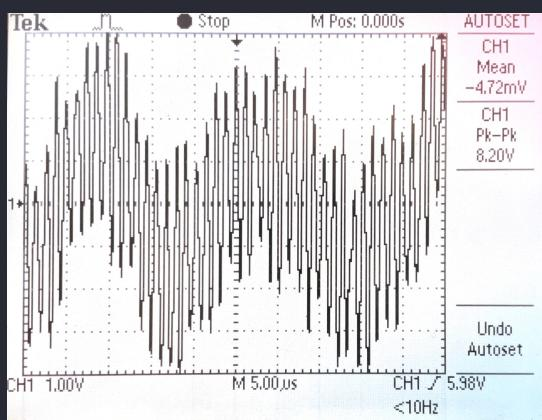

Figure 2.8: TDS 1012 oscilloscope view
**Observations** Fig. 2.8 and 2.9 show the oscilloscope and 770 view of the AM radio signal from KFUO 850 kHz